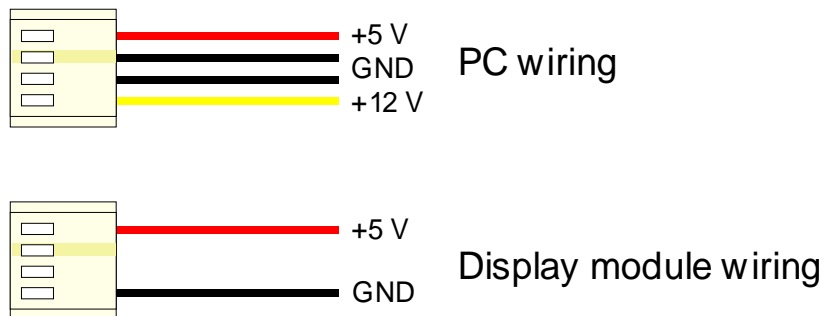

*Figure 2-2 Power connector*
4. Connect the power connector; making sure that the +5V goes to V+ as shown in Figure 2-2. Turn on the power: the LCD backlight should come on with a blinking cursor in the top left corner.